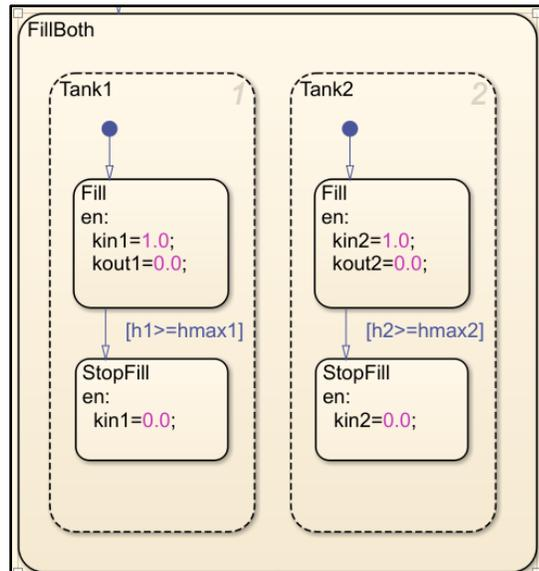

Figure 26. Copy “Tank1” to make it “Tank2”.
- j) Select “Tank 1” block including its contents, then copy-and-paste inside “FillBoth”. Change the various names and variables to process tank 2 instead of tank 1. (see Figure 26).